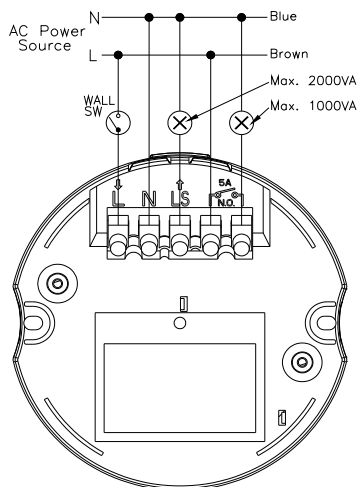

FIGURE 5
- (4) Make use of the base as a template to mark the position of two screw holes on the ceiling.
- (5) Strip approximately 6-8mm of the insulating part of the wires from the power cord.
- (6) The Micro Motion Sensor is equipped with two outputs with different main functions: (FIGURE 5)